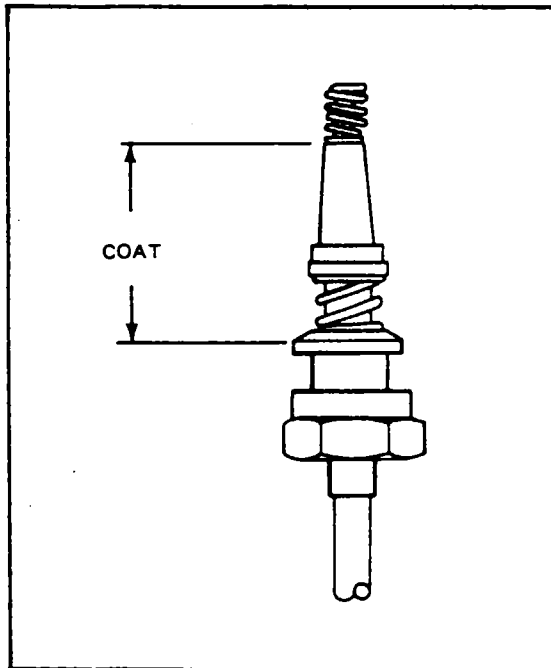
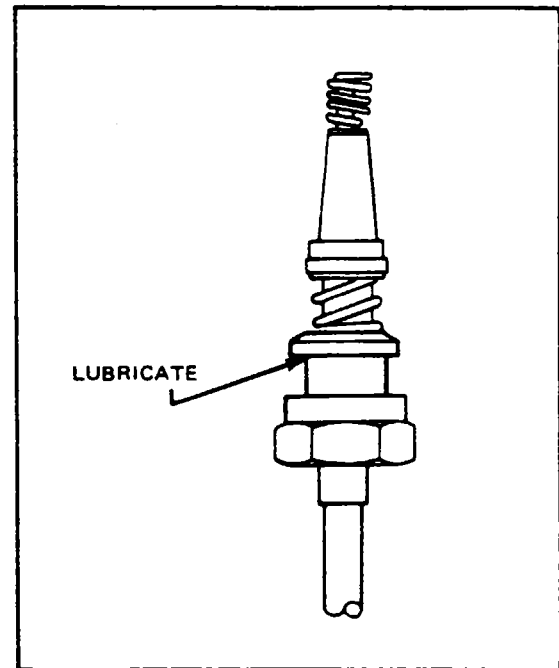

Figure 8-37. Lubricating Sleeve
Figure 8-38. Lubricating Ferrule Shoulder
- i. Prior to seating spark plug lead terminal in plug barrel use fluorocarbon spray on spark plug terminal insulating sleeve (refer to Figure 8-37) to prevent heat from sticking sleeve to spark plug barrel. Lightly lubricate the shoulder of ferrule to minimize twisting of ferrule. (Refer to Figure 8-38.) Use GO-JO NO LOK manufactured by Goger Inc., Akron, Ohio 44309.